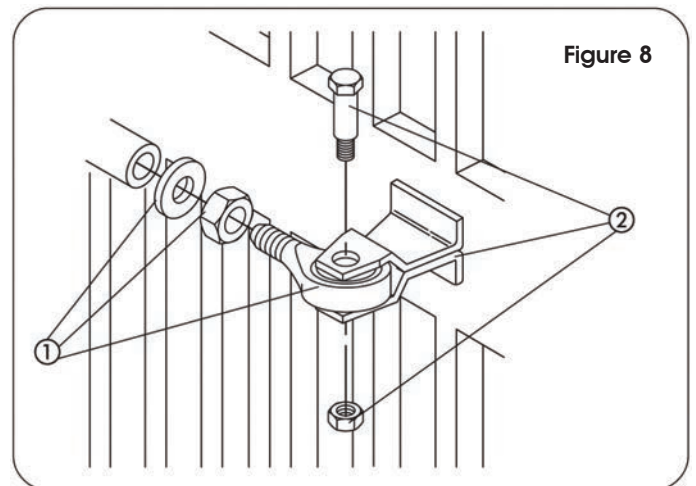

Figure 8
- 3.) Screw, halfway down, the front attachment onto the rod (Fig. 8, Ref.1). Tighten with the supplied nut.
- 7.) Fit the front bracket onto the rod (Fig. 8, Ref. 2)